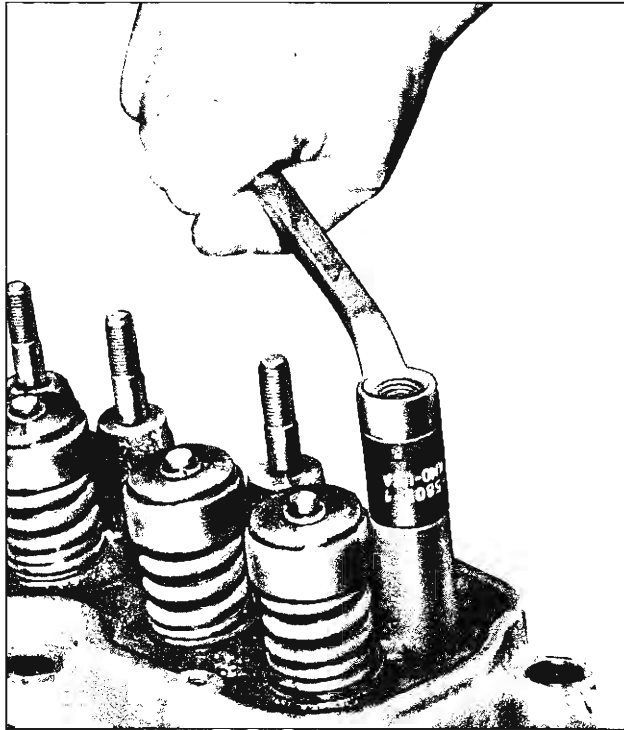

Fig. 14—Remove Rocker Arm Stud
1. Remove old stud by placing Tool J-5802 over the stud, installing nut and flat washer and removing stud by turning nut (fig. 14).